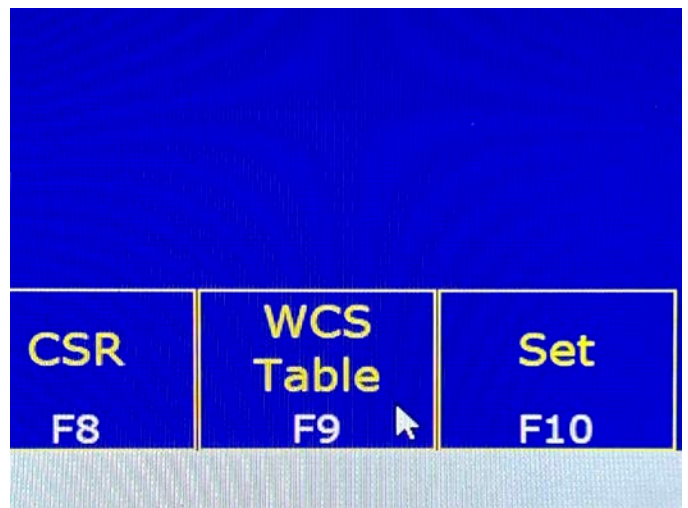

FIGURE 44
C. Click on WCS Table F9 (see Figure 44).